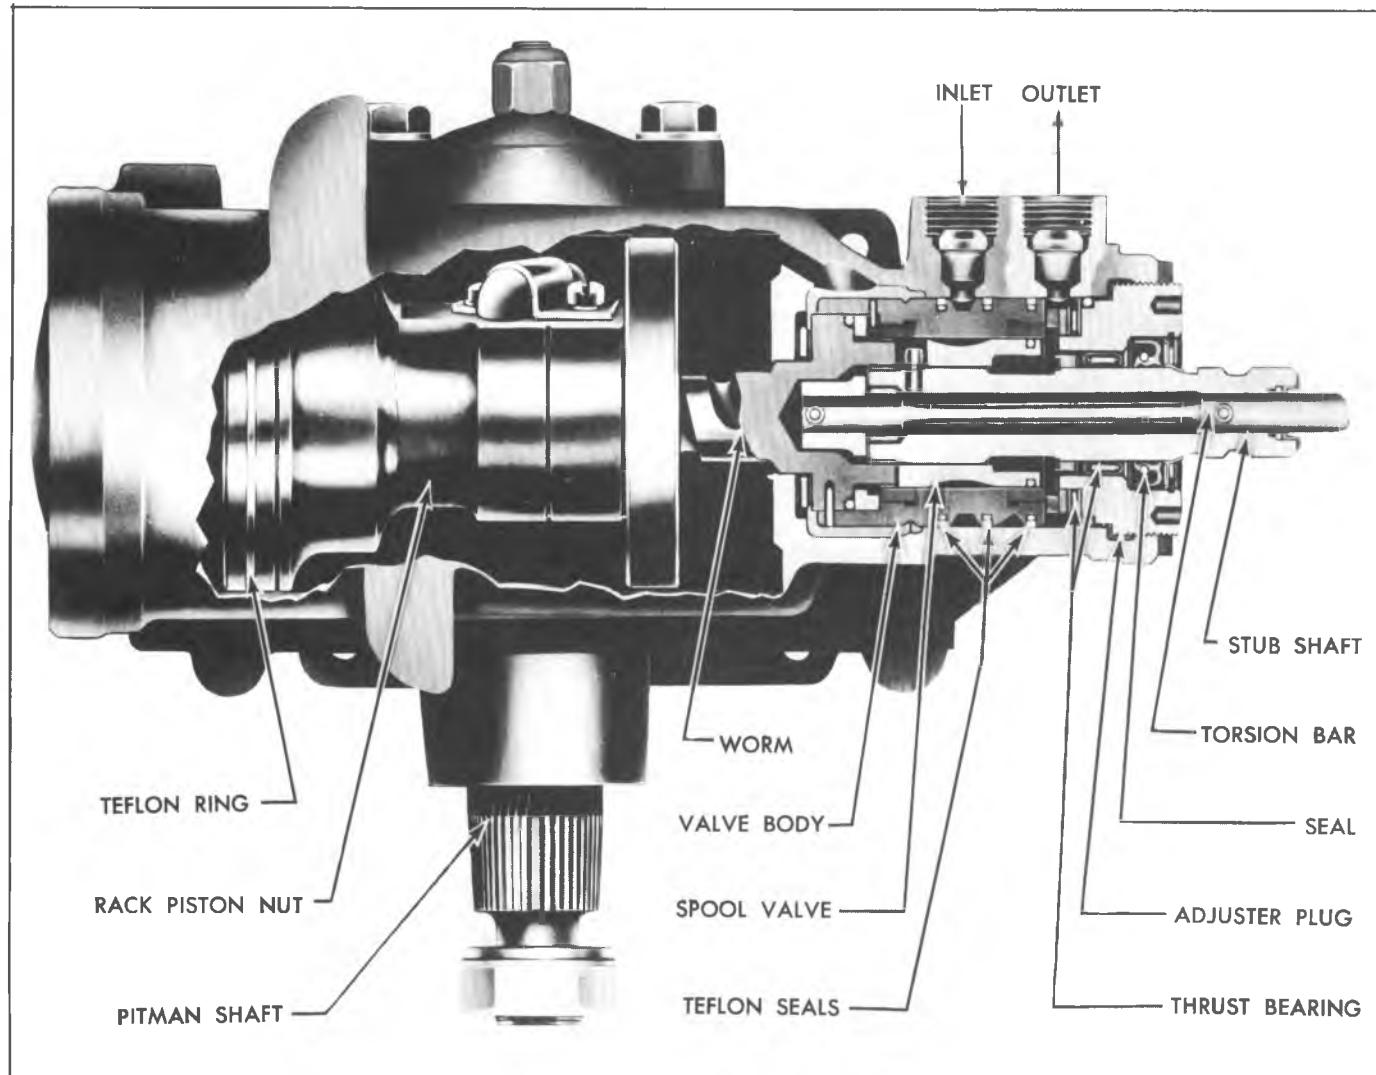

Fig. 3B-33—Power Steering Gear—Typical
1. Rotate end cover retainer ring so that one end of the ring is over the hole in the side of the housing. Force the end of the ring from its groove and remove ring (fig. 3B-34).
3. Remove the rack-piston end plug as shown in Figure 3B-35.